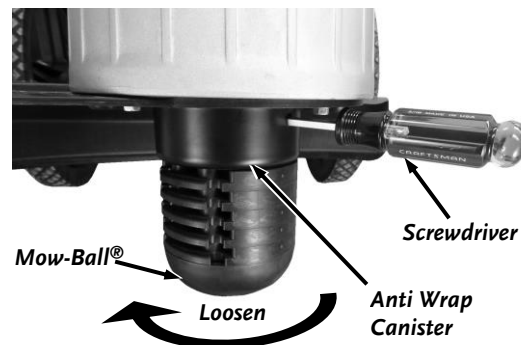

Figure 25
1. Align the hole in the Anti Wrap Canister with the hole in the internal housing at the location shown (**Figure 25**).